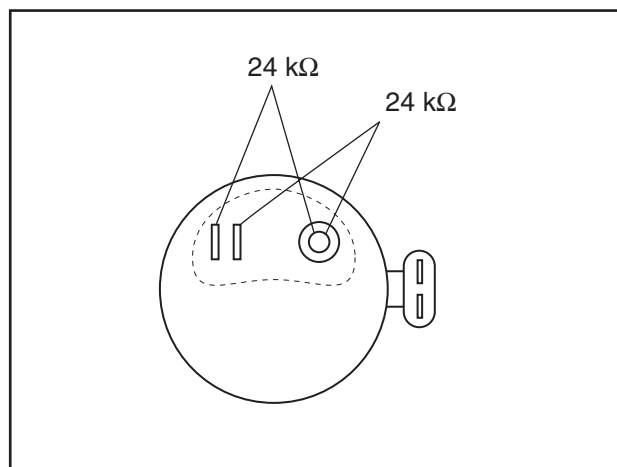

Figure 11. Testing Secondary Coil Resistance
2. To test secondary coil resistance, measure resistance from each coil terminal to the contact in the bottom of the coil tower (see Figure 11). The reading from each terminal to the coil tower contact should be approximately 24 kilohms ($\pm 10\%$) at 68°F (20°C).